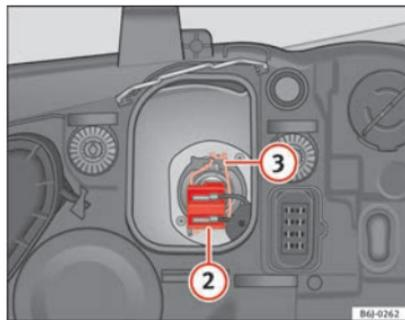

Fig. 154 Dipped beam headlights
- Remove the connector ⇒ fig. 154 ② from the bulb.
- Unclip the retainer spring ⇒ fig. 154 ③ pressing inwards to the right.